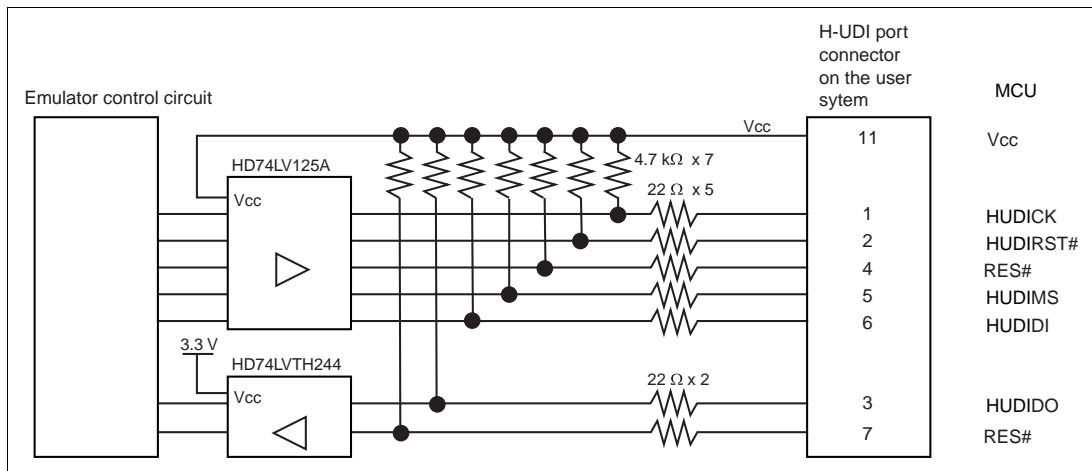

Figure 1.8 Interface Circuit in the Emulator (Reference)
7. Figure 1.8 shows the interface circuit in the emulator. Use this figure as a reference when determining the pull-up resistance value.